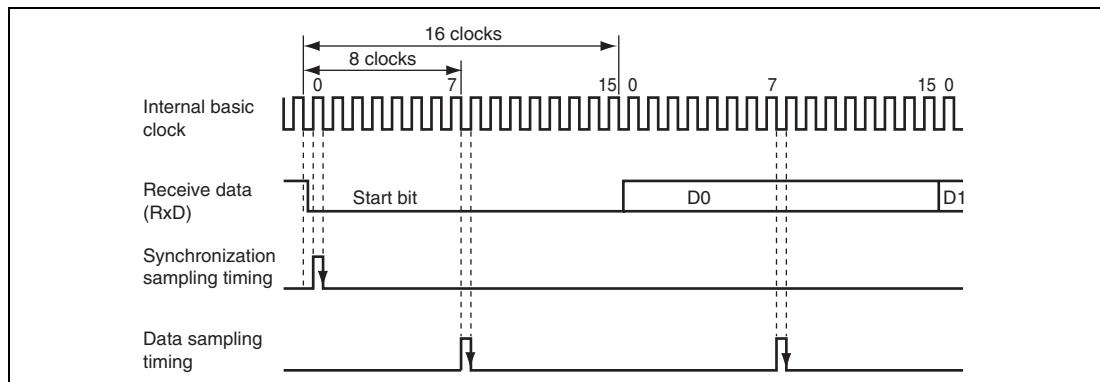

Figure 15.19 Receive Data Sampling Timing in Asynchronous Mode
In asynchronous mode, the SCI3 operates on a basic clock with a frequency of 16 times the transfer rate. In reception, the SCI3 samples the falling edge of the start bit using the basic clock, and performs internal synchronization. Receive data is latched internally at the rising edge of the 8th pulse of the basic clock as shown in figure 15.19. Thus, the reception margin in asynchronous mode is given by formula (1) below.